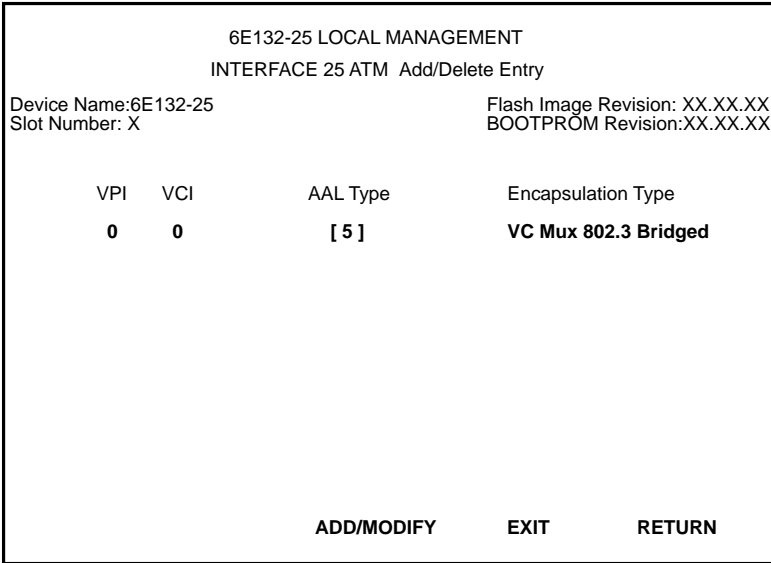

Figure 3-5 The Add/Delete Entry Screen
2. Press ENTER, the Add/Delete Entry screen, Figure 3-5, displays.